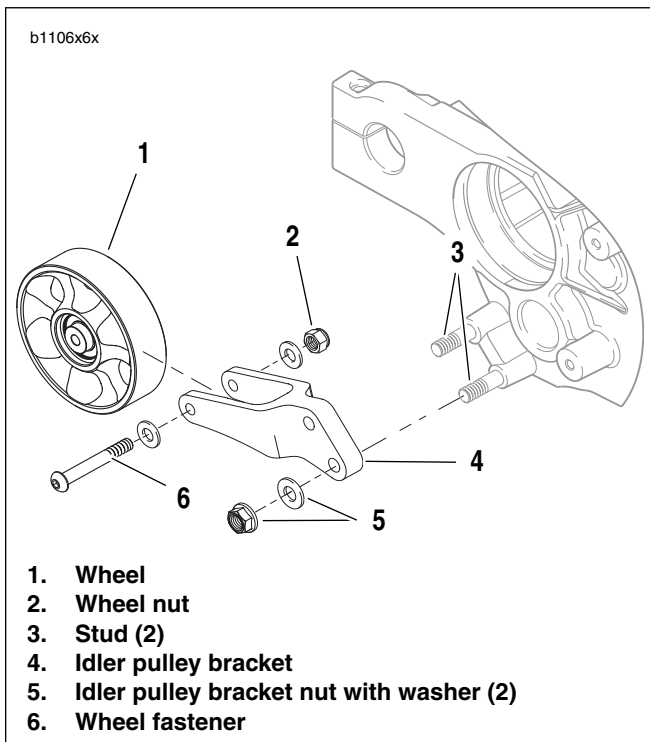

Figure 6-99. Idler Pulley Assembly
4. See Figure 6-99. Remove both bracket nuts with washers (5) attaching idler pulley bracket (4) to studs (3).
6. Inspect pulley by spinning wheel (1) and checking for excessive wheel bearing wear. See INSPECTION/1.10 DRIVE BELT.
7. If pulley wheel needs replacement, remove fastener (6) and nut (2) from idler pulley bracket (4) and discard. Replace with **new** pulley wheel (1).